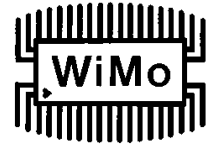

Fig 1: attaching the mast bracket to the grid
- For vertical polarisation install as shown in figure 1.